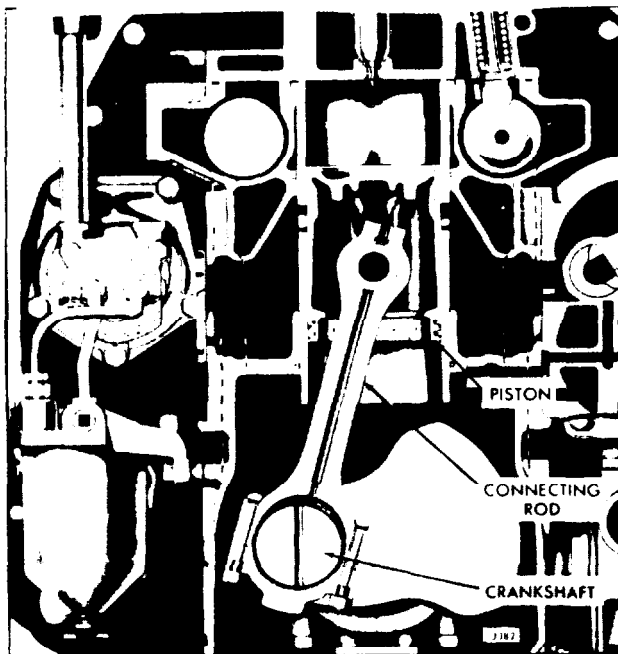

Fig. 1 Connecting Rod Mounting
*Piston* in Section 1.6.1. Then refer to Fig. 1 and install the piston rings.
Each connecting rod (figs. 1 and 2) is forged to an "I" section with a closed hub at the upper end and a bearing cup at the lower end. The connecting rod is drilled to provide lubrication to the piston pin at the upper end and is equipped with a nozzle to spray cooling oil to the underside of the piston head on engines equipped with an oil cooler. Engines that are not equipped with an oil cooler do not use nozzle type connecting rods. An orifice is pressed into a counterbore at the lower end of the oil passage (in rods equipped with a spray nozzle) to meter the flow of oil.